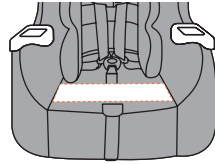

Fig. 29a
- Use body weight or apply weight in seat with hand to compress the vehicle seat cushion then insert the lower anchor connector onto the vehicle anchor point (Fig. 29a). Tighten the lower anchor connector by pulling up on the webbing end through opening in seat fabric (Fig. 29b). Pull up on the lower anchor connector to ensure the lower anchor is securely fastened.